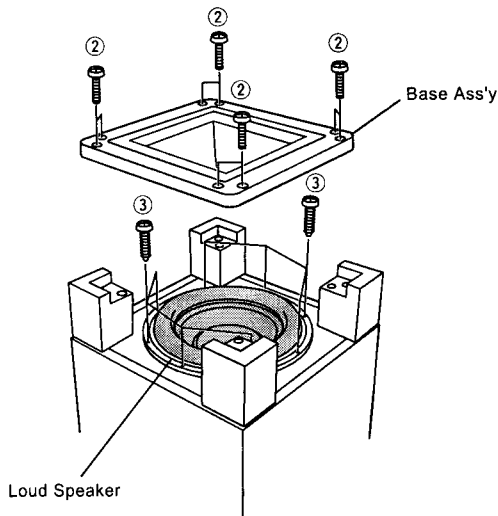

Fig. 2
- Remove 8 screws (②) and then remove the Base Ass'y in Fig. 2.
- Remove 8 screws (③) and then remove the Loud Speaker in Fig. 2.